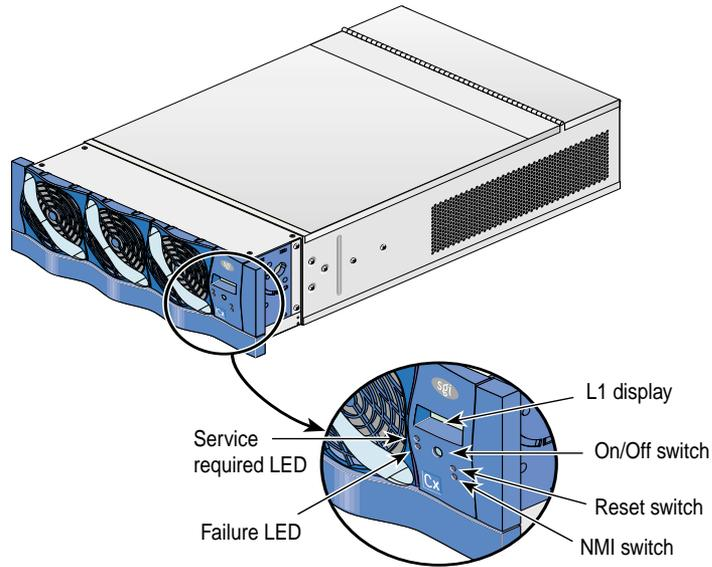

Figure 3 Front Panel of the Cx-brick
- One L1 controller, which is used to monitor and manage your Cx-brick, generates status and error messages that appear on the liquid crystal display (LCD) located on the Cx-brick front panel (see Figure 3 on page 8). You can also use your system console to monitor and manage your system and to enter L1 controller commands. For detailed information about the L1 controller and L2 controller commands, see your *SGI L1 and L2 Controller Software User's Guide*.
The following are the front panel components of the Cx-brick (see Figure 3):